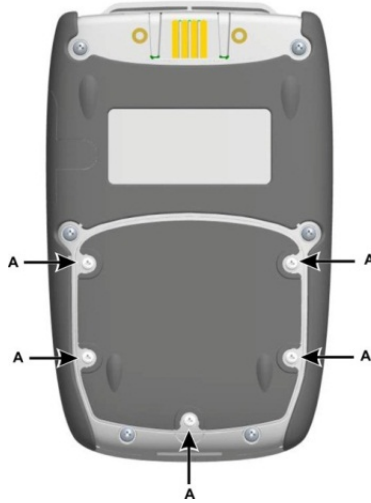

Figure 1-3: Installation of the Battery (Standard)
1. Remove the five Pozidriv screws A, see Figure 1-3.